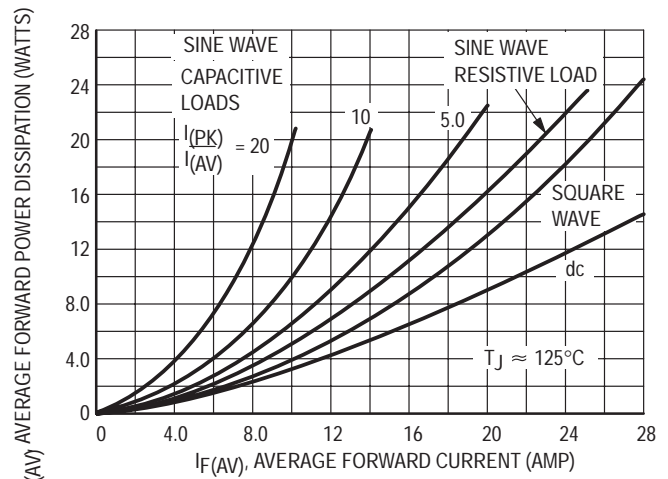

Figure 4. Forward Power Dissipation
Step 3. Find P_{F(AV)} from Figure 4. **Read P_{F(AV)} = 12.8 W